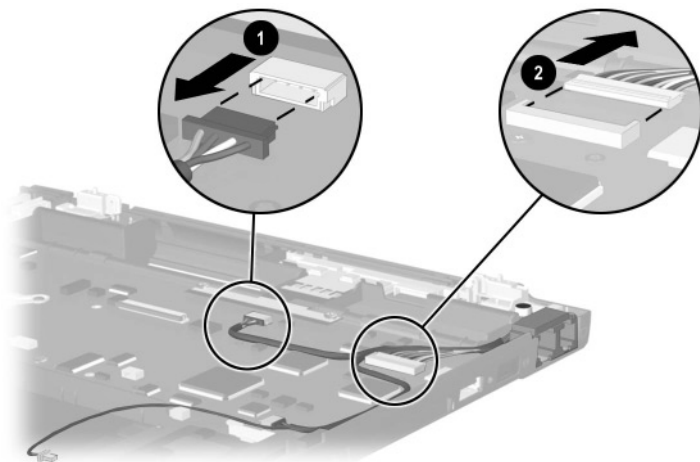

Figure 5-27. Removing the Modem Cable on Evo Notebook N410c Models (continued)
10. Disconnect the network interface card (NIC) passthrough cable ❶ and NIC/switch to system cable ❷ from the system board (Figure 5-27).